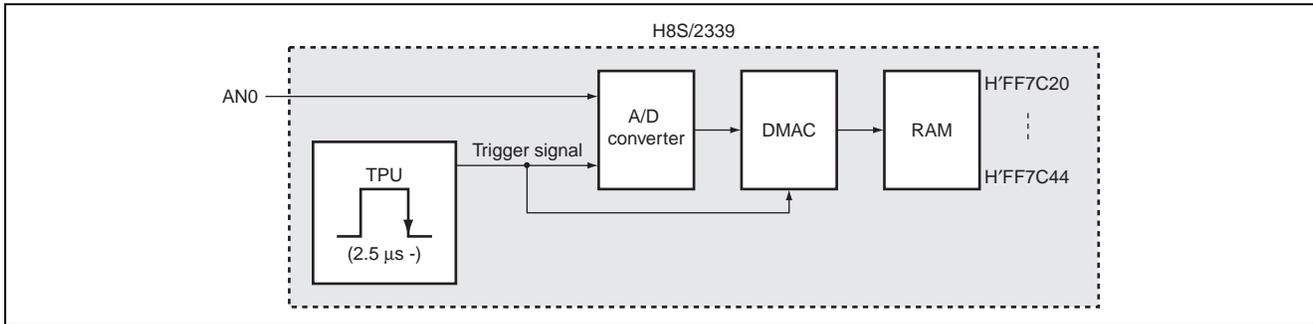

Figure 1 Block Diagram of A/D Conversion by Timer Trigger
1. As shown in figure 1, this sample task starts up the A/D converter and DMAC by a conversion start trigger from the TPU, performs A/D conversion of an audio signal, and transfers it to the RAM from the DMAC.